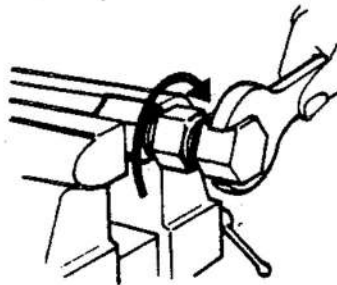

Fig.12 Assembly mandrel in use
(1) Cut the hose squarely to length, clean off the cutting residue. Do not remove any of the outer cover. With hose Pt. No. 602 (Skydrol hose) additionally clean the hose ends and the end fitting components with trichloroethane.
(2) Place the socket in a vice (do not overtighten). Screw the hose into the socket, in a counter-clockwise direction until it bottoms then back off one quarter turn.
(3) Tighten nipple and nut on a mandrel, or in the case of flanged fittings, place the flange on the nipple, ensuring that the nipple shoulder fits neatly into the flange counterbore.
(4) Lubricate the inside of the hose and nipple threads liberally. With Skydrol hose use only liquid vegetable soap or castor oil; otherwise use oil or light grease.
(5) Screw the nipple into the socket and hose, using a spanner on the assembly tool (fig. 12). Check that the nut swivels freely when the assembly tool is removed, and that the gap between nut and socket is between 0.13 and 1.6 mm (0.005 to 0.063 in). With flange fittings the spanner may be used on the nipple hexagon.